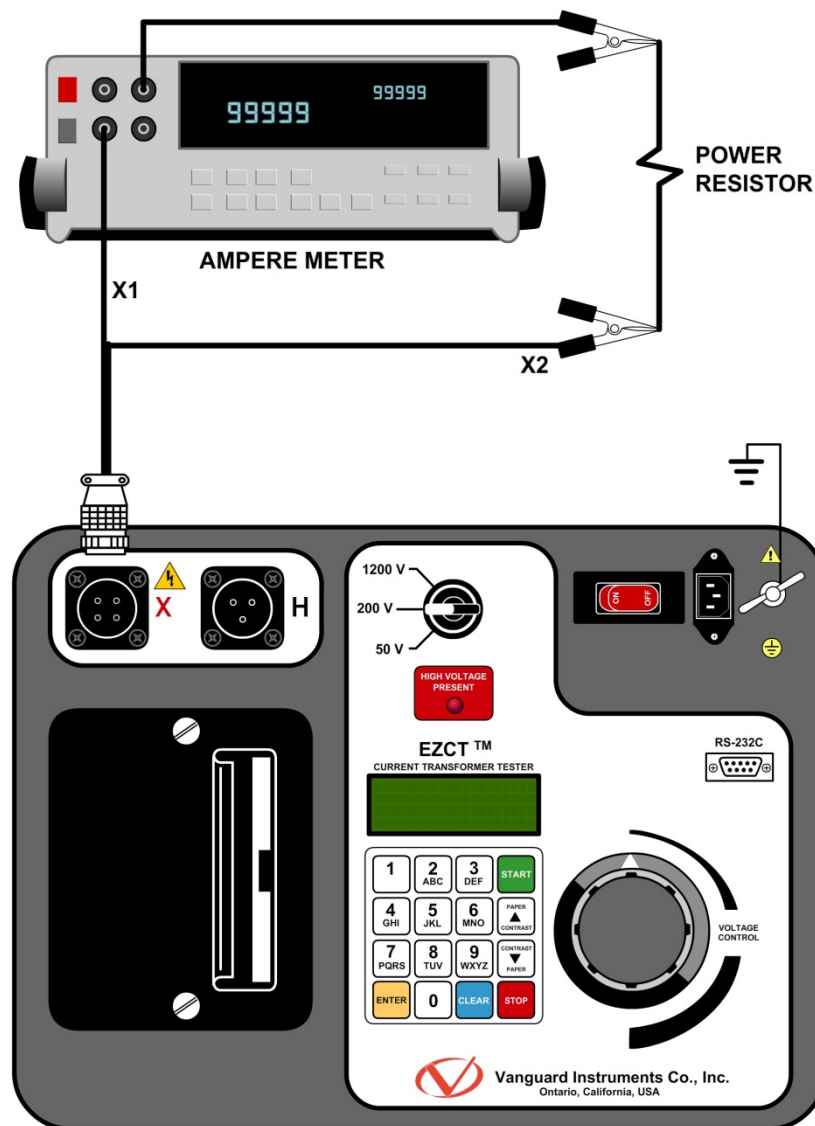

Figure 16. EZCT I_x Verification Test Connections
- Connect the X cables to a power resistor and an RMS ampere meter as shown in Figure 16.